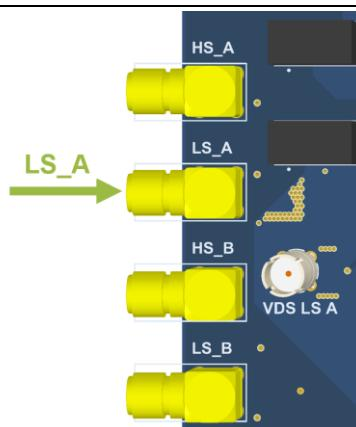

Figure 6 Connection of PWM input signal for “LS_A” MOSFET for single/double pulse switching
- Connect the PWM input signal. For the basic operation, only one MOSFET (the low-side MOSFET of Leg “A”, called “LS_A”) is supplied with a PWM signal. Figure 6 shows the correct cabling to operate the low-side MOSFET of HB “A”